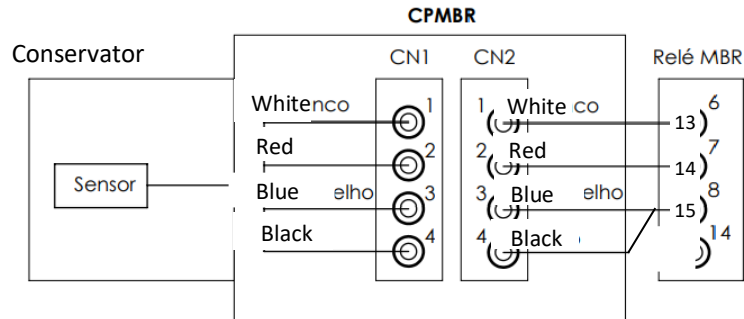

Figure 25 – Connection diagram
- Adjust the cables according to Figure 25 and check that all the cables are securely connected to the spring-loaded terminals. Finally, close the cover firmly and tighten the output cable gland.